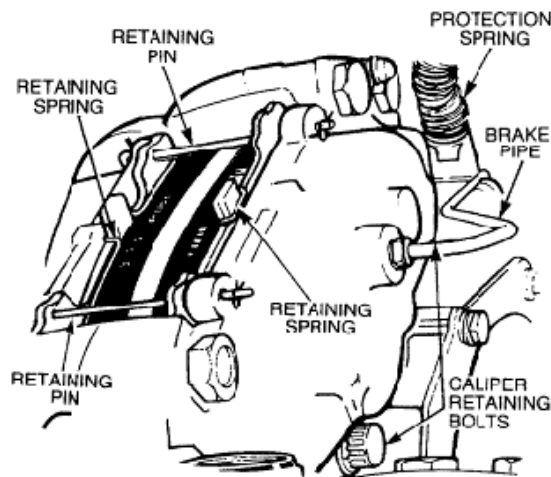

Figure 110 Brake Caliper Removal
- g. Remove the disc pad retaining pins and remove the retaining springs and pads (Figure 110).